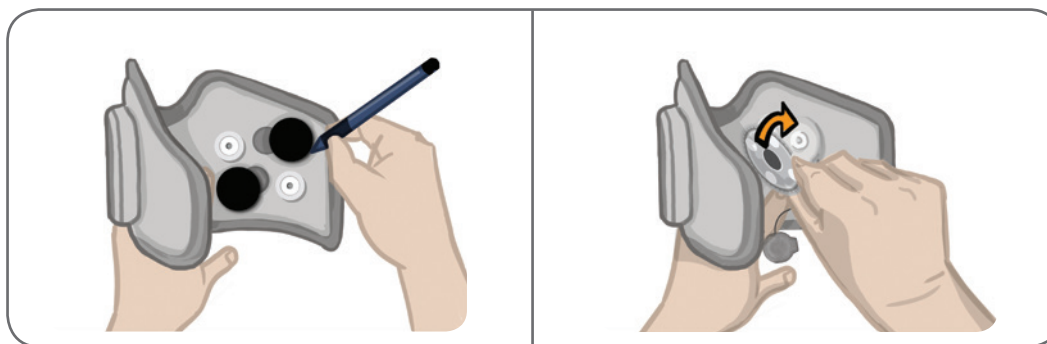

Figure 11-8: Mark Position of Electrode Base (Left)
1. Remove the wire concealers and mark the position of the used electrode bases on the FS Cuff liner with a permanent marker. See Figure 11-8.
2. Disconnect the electrode base snaps from the plug holes. See Figure 11-8.